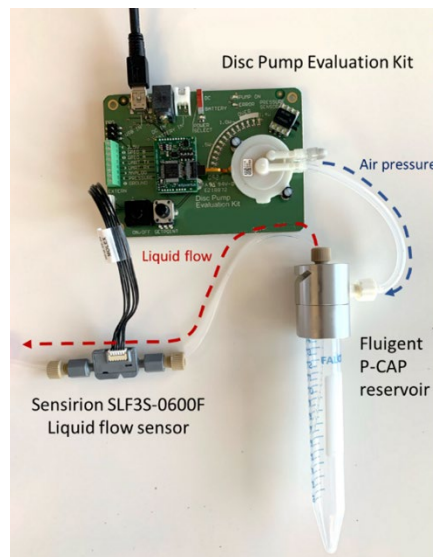
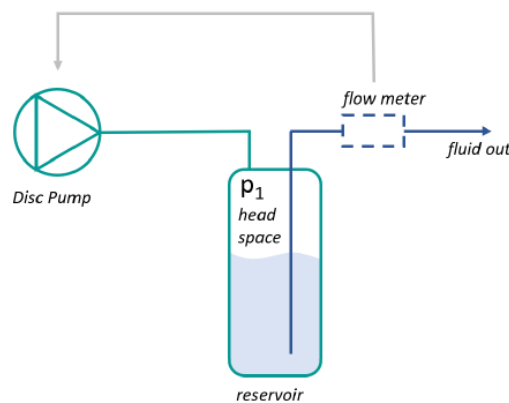

Figure 3. System components
Figure 4. System schematic
The Lee Company only supplies the Piezoelectric Disc Pump Evaluation Kit shown in Figure 3. Please order the other components separately from their respective suppliers.
- Connect the components together per the schematic (Figure 4) and system photograph (Figure 3) before powering up.